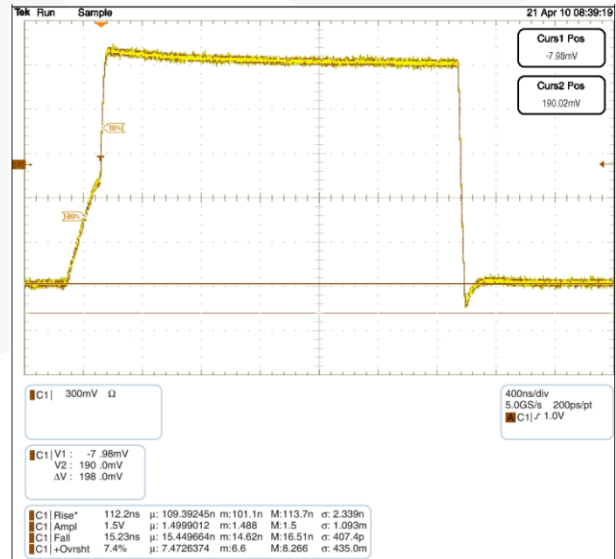

Figure 4. Waveform C: 600pF, Total  $R_{PU}$ : 2.2K $\Omega$
between the ports until either of the port's  $V_{CC}/2$  thresholds are reached. After the RC time constant has reached the  $V_{CC}/2$  threshold of either port, the port's edge detector triggers both dynamic drivers to drive their respective ports in the LOW-to-HIGH (LH) direction, accelerating the rising edge. The resulting rise time resembles the scope shot in Figure 4. Effectively, two distinct slew rates appear in rise time. The first slew rate (slower) is the RC time constant of the bus. The second slew rate (much faster) is the dynamic driver accelerating the edge.
The FXMA2104 dynamic drivers have enough current-sourcing capability to drive a 400pF capacitive bus. This is beneficial when an I2C buffer / repeater is required. The I2C specification stipulates a maximum bus capacitance of 400pF. If an I2C segment exceeds 400pF, an I2C buffer / repeater is required to split the segment into two segments, each of which is less than 400pF. Figure 4 is a scope shot of an FXMA2104 driving a lumped load of 600pF. Notice the (30% - 70%) rise time is only 112ns (total RPU = 2.2K · ). This is well below the maximum edge rate of 300ns. Not only does the FXMA2104 drive 400pF; it also provides excellent headroom below the I2C specification maximum edge rate of 300ns.